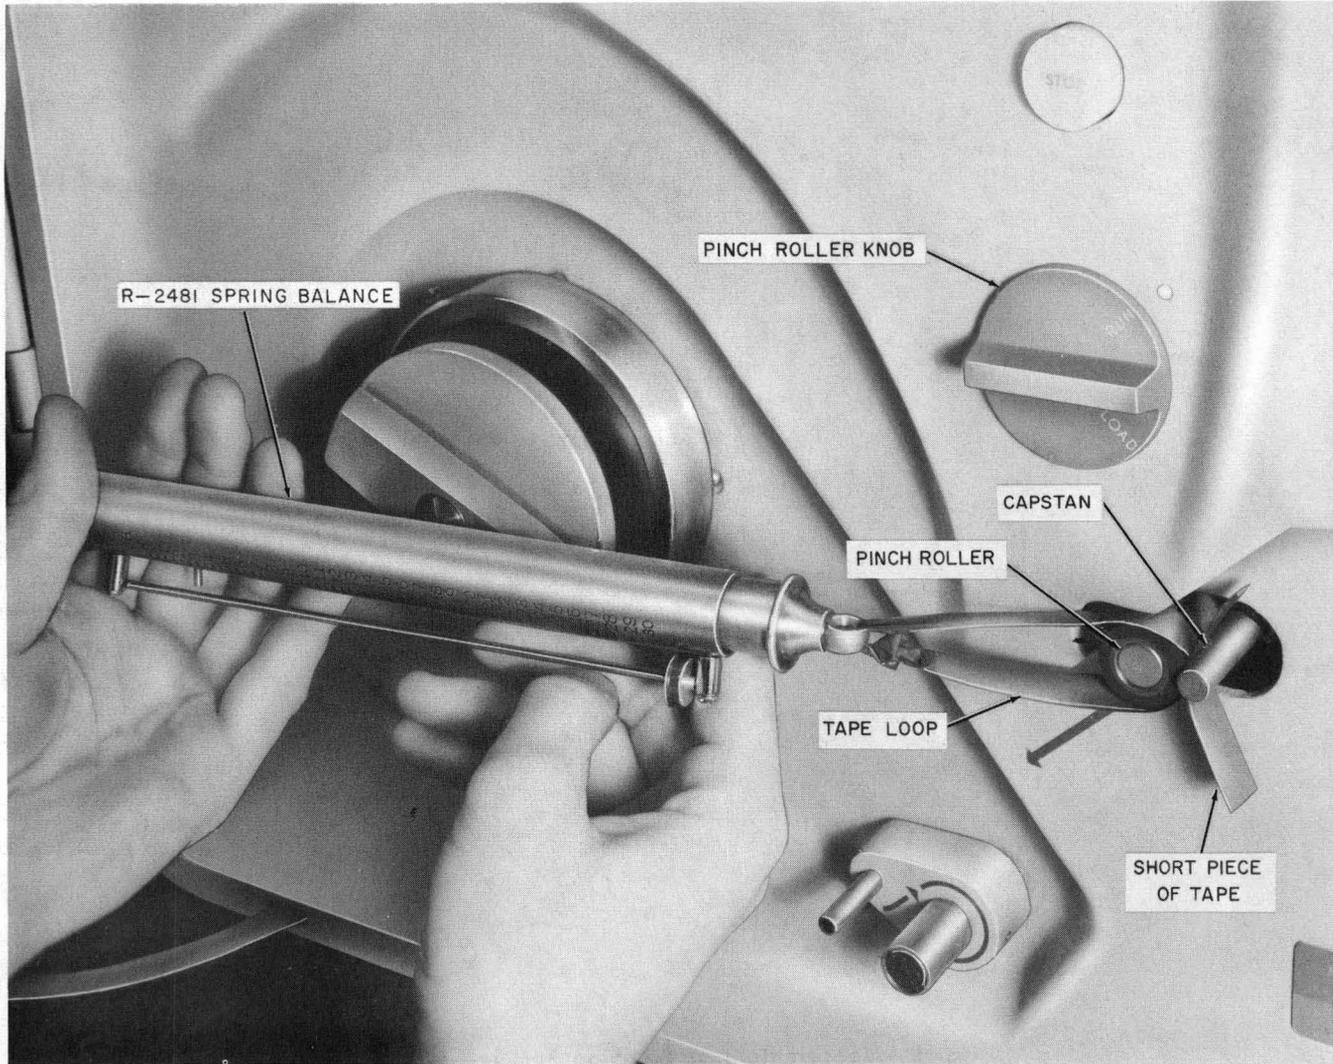

Fig. 9—Set-Up for Checking Pinch Roller Pressure—Typical
- (1) Operate the pinch roller knob to LOAD position.
- (2) Form a tape loop by folding a 1-foot piece of magnetic tape lengthwise and tying the ends.
- (3) Place the tape loop between the capstan and pinch roller with the loop to the left (Fig. 9).
(4) Place a second short piece of tape between the tape loop and the capstan.
(5) Operate the pinch roller knob to RUN position, securing both tapes.
(6) With the R-2481 spring balance attached to the tape loop, pull in a direction to pull the roller away from the capstan with a force of 14-1/2 pounds.
(7) The short piece of tape shall still be held by the force of the pinch roller against the capstan. Increase the force by 1 pound and the short piece of tape should be freed.